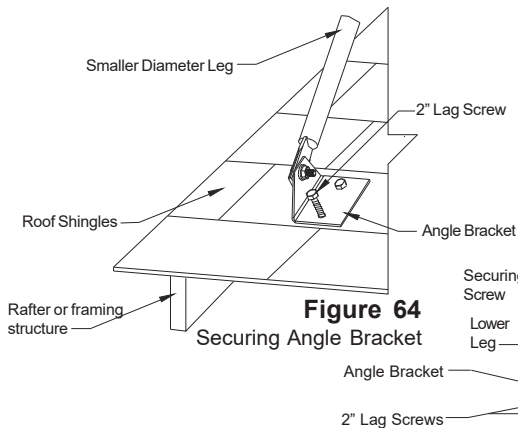

**Figure 62**
- G. Place a flat washer on the elevator bolts and attach the top portion of each of the telescoping legs to the 2 elevator bolts on the Support Band with washer and flanged nut (see Figure 62). NOTE: Top portion of each leg can be bent at an angle.
- K. The two telescoping legs should form an angle of about 60° to give support to the chimney in all directions. The angle of the telescoping legs should be approximately 45° from vertical when fastened to the roof (see Figures 62 & 65).